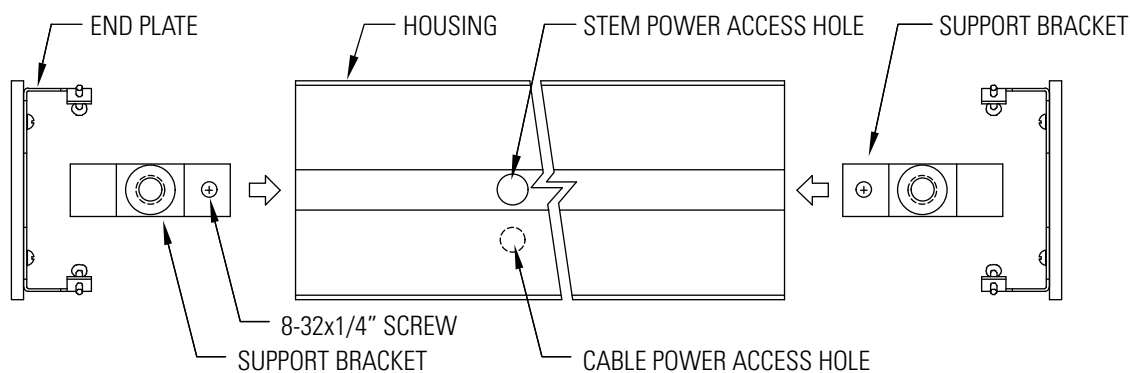

Figure 3
- B. Thread CABLE or STEM through the SUPPORT BRACKET. (Fig. 3)
- C. Align center of SUPPORT BRACKET onto hole in the HOUSING and fasten securely with (1) 8-32 x 1/4" SCREW.
- A. Install END PLATES into the fixture HOUSING and fasten securely. (Fig. 3)